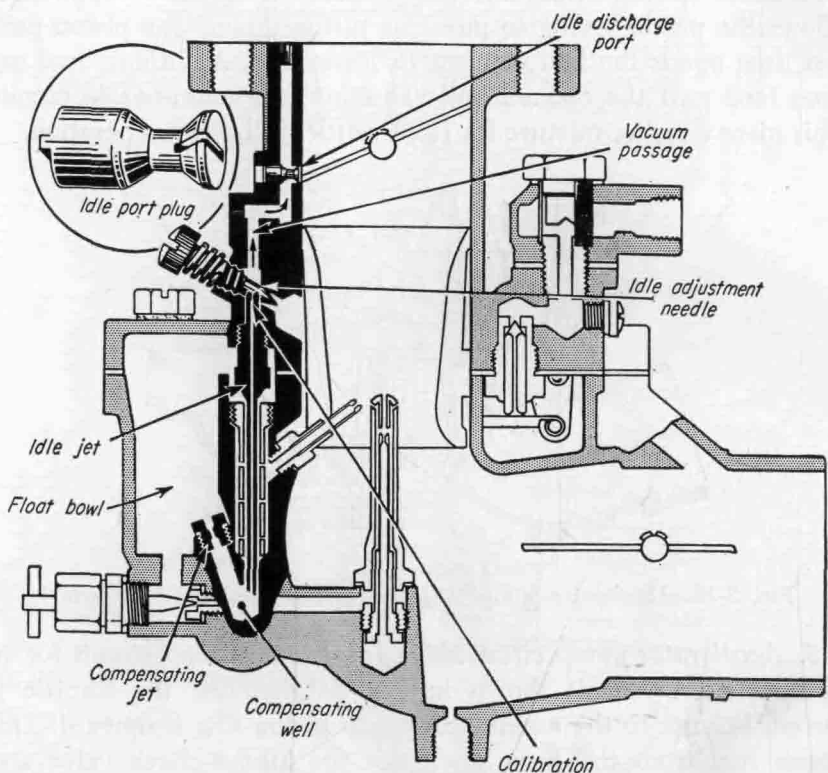

FIG. 5-14. Idle circuit in updraft carburetor. (*Zenith*)
6. *Idle circuit.* The idle circuit of another type of updraft carburetor is shown in Fig. 5-14. On this unit the idle adjustment screw serves a somewhat different purpose from that of the idle ad-